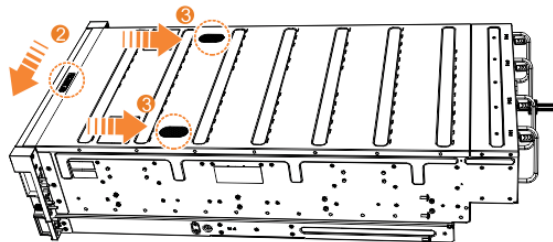

Figure 99. Replacing the top cover
7. Push the cover release lever to the side (2) as shown in Figure 99 on page 157.
8. Slide the cover towards the back of the enclosure (3) back until it stops, as shown in Figure 99 on page 157.